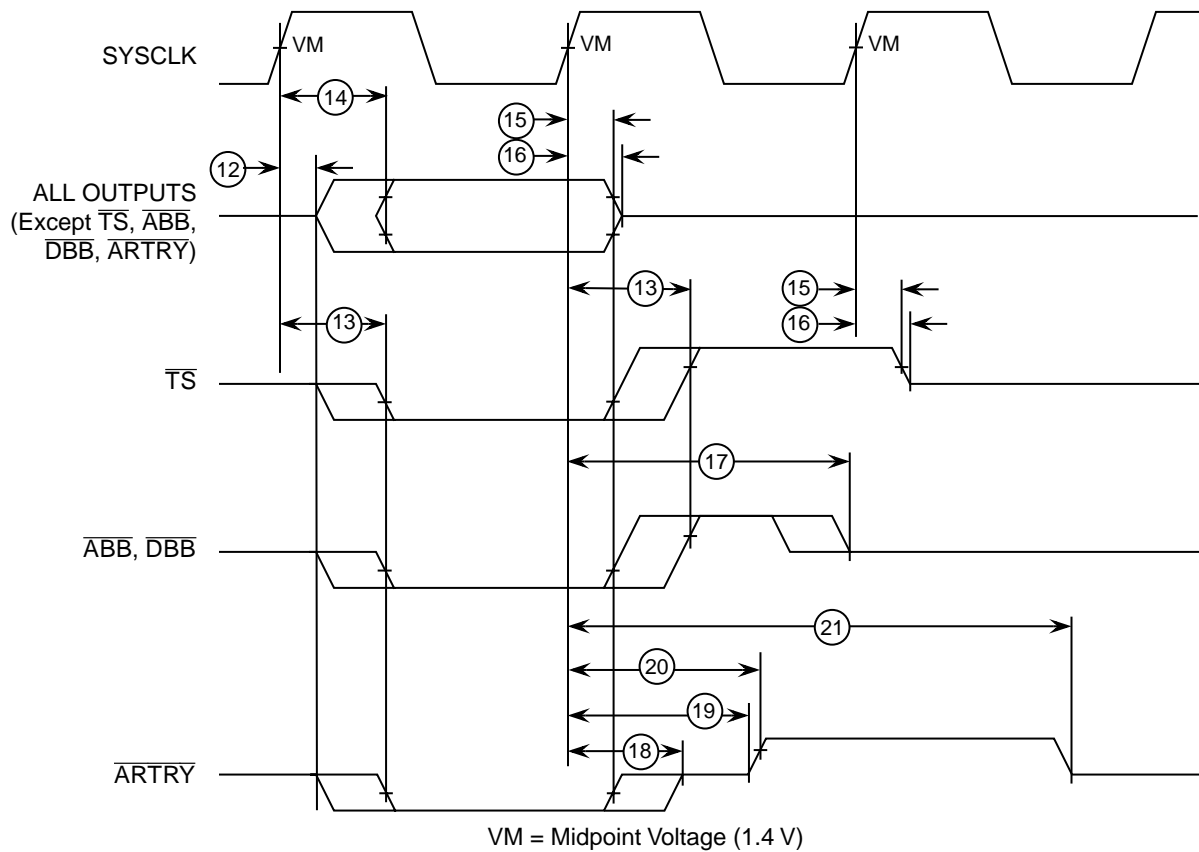

Figure 4. Output Timing Diagram
Table 9 provides the output AC timing specifications for the PID7t-603e as defined in Figure 4.
1. All output specifications are measured from the 1.4 V of the rising edge of SYSClk to the TTL level (0.8 V or 2.0 V) of the signal in question. Both input and output timings are measured at the pin (see Figure 4).
Figure 4 provides the output timing diagram for the PID7t-603e.